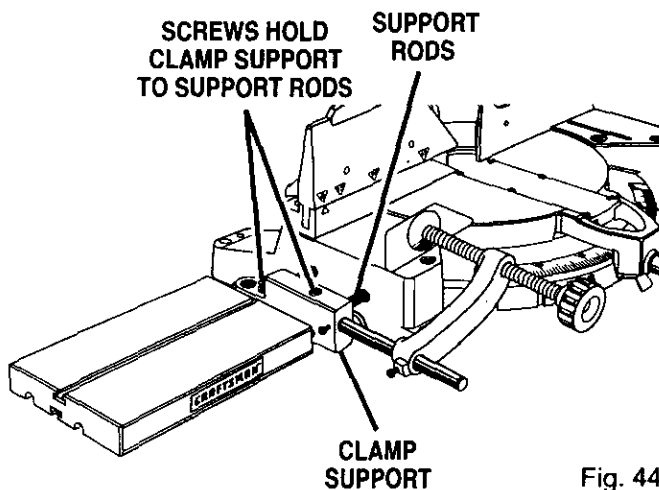

Fig. 44
- Insert the grooved end of the clamp extension rod as far as it will go into the front hole of the clamp support. This will allow the clamp to press the workpiece against the fence. See Figure 44.